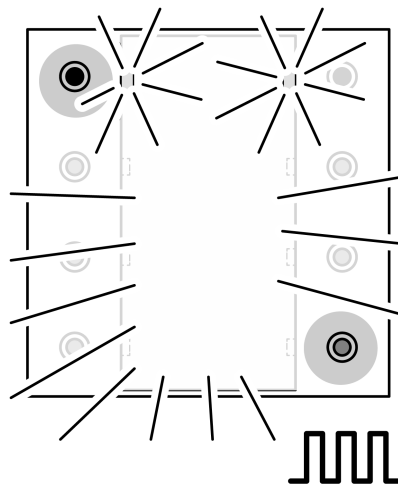

Figure 9: Actuation points for activating programming mode
- Activate Programming mode. Press the actuation point at the top left (pushbutton element 1) on the TSM and keep it depressed (see figure 9). Then press the second actuation point at the lower right (pushbutton element 8).